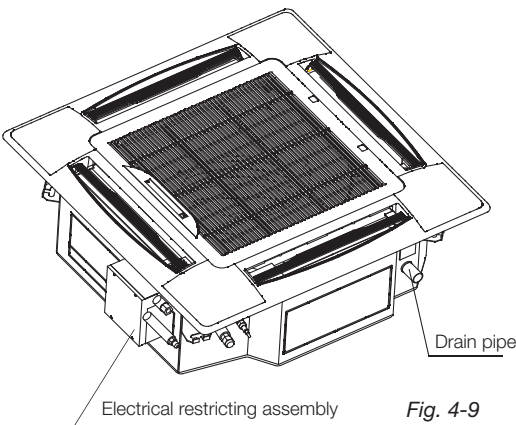

Fig. 4-9
- Adjust the position to ensure the gaps between the body and the four sides of ceiling are even. The body's lower part should sink into the ceiling for 10~12 mm (refer to Fig. 4-9).